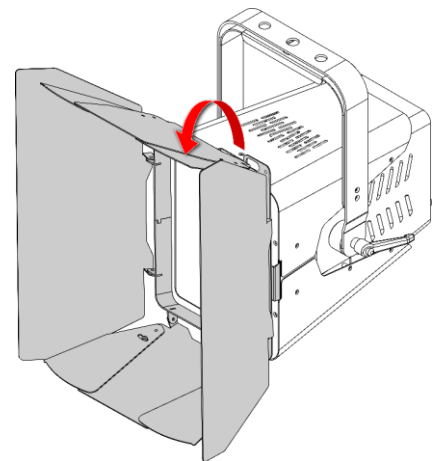

Fig. 10
- 03) Pull the **color frame clip (05)** downwards (see Fig. 10). The barndoor will be locked in position.
- 04) Secure the barndoor to the overhead structure with an appropriate secondary attachment, for example a safety cable. Put the safety cable through the **safety eye (15)** of the barndoor. See **4.4. Rigging** on page 13 for more information.